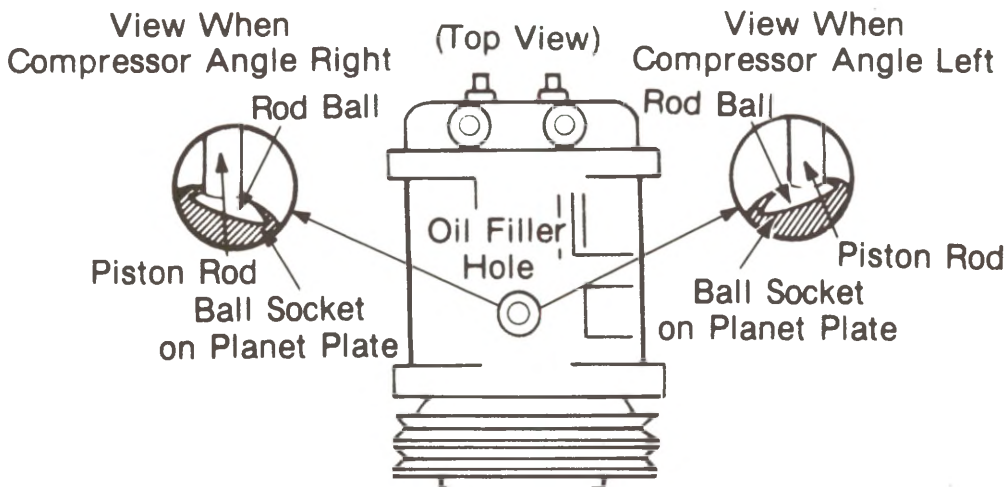

Fig. 3-16 — Sankyo Oil Check Compressor View
2. Remove the oil fill plug. Look in the oil fill hole and turn the clutch drive plate until the internal parts of the compressor line up as shown in Figure 3-16. If the compressor is mounted.